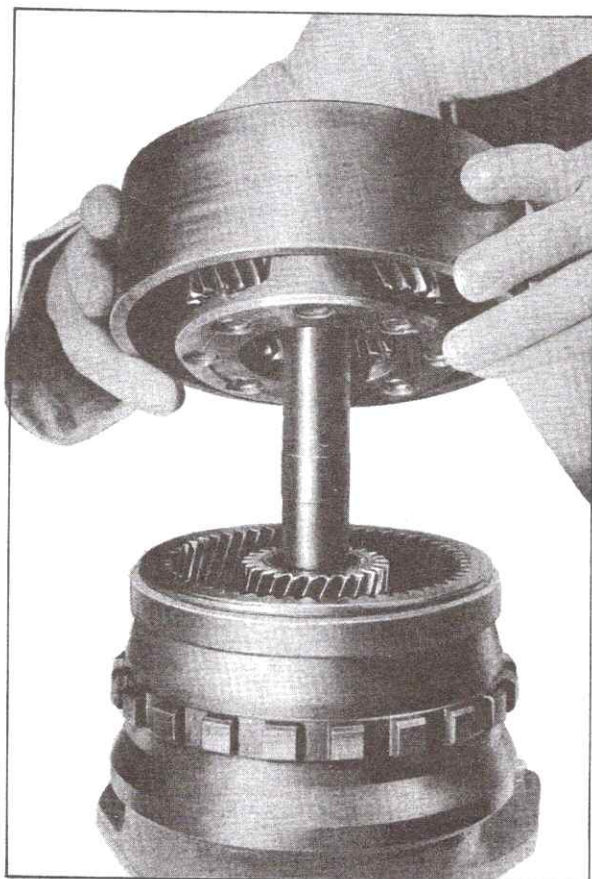

Fig. 7-85 Installing Reaction Carrier on Output Carrier
12. Lubricate pinion gears in reaction carrier with transmission fluid and install reaction carrier on output carrier, Fig. 7-85, so that pinion gears mesh with front internal gear.